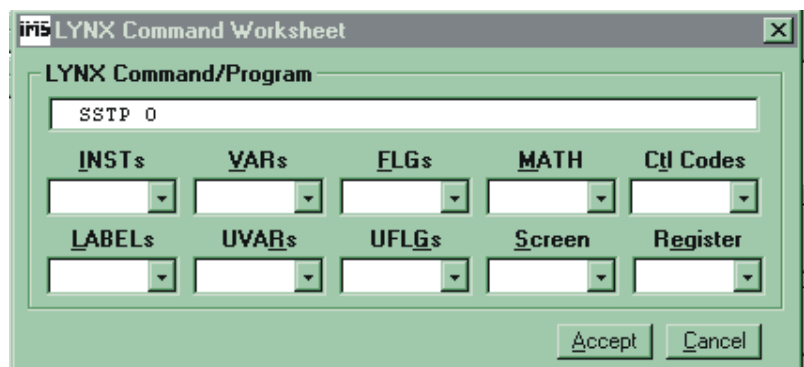

Figure 4.18: LYNX Command Worksheet
- 1] The setup dialog for F4 should already be open. Click the arrow to the right of the text box, this will open the command worksheet. Figure 4.18